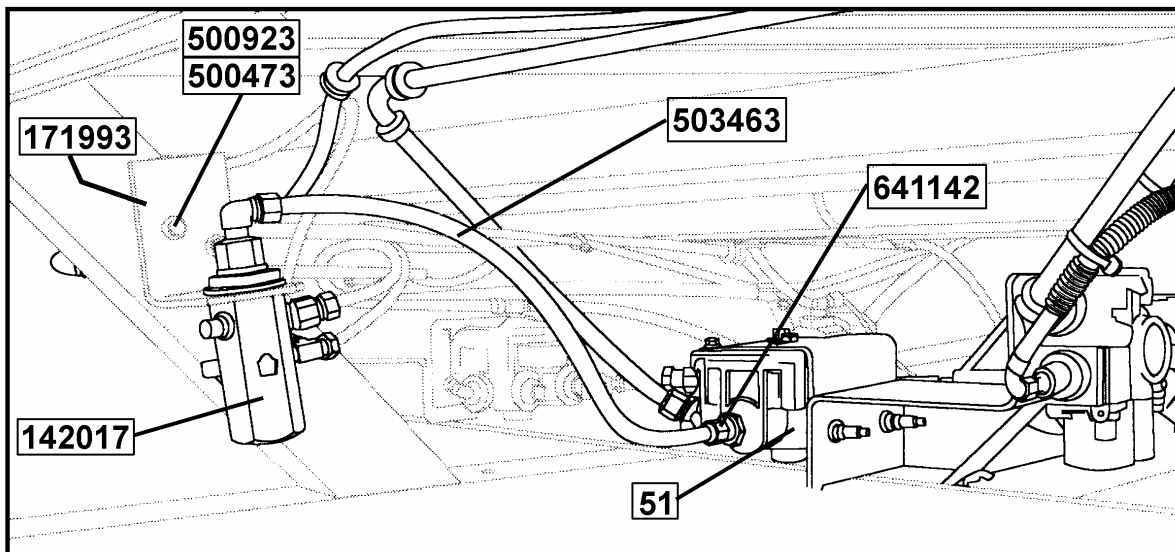

FIGURE 5 : LOCATION OF LIFTING SYSTEM LOGIC INVERSION VALVE
**Note :** Use figures 5, 6, 7 and pneumatic diagrams D-140198 p.2, D-140199 p.2 and D-140253 to facilitate location and installation of various parts.
2. Remove plug and screw straight fitting (Prévost #641142) on valve #51, install the 3/8" O.D. green plastic tube (Prévost #503463) between inversion valve and valve #51 (refer to figure 5).
**Note** : Use figures 5 and 6 and pneumatic diagrams D-140198 p.3 and D-140253 to facilitate location and installation of various parts.